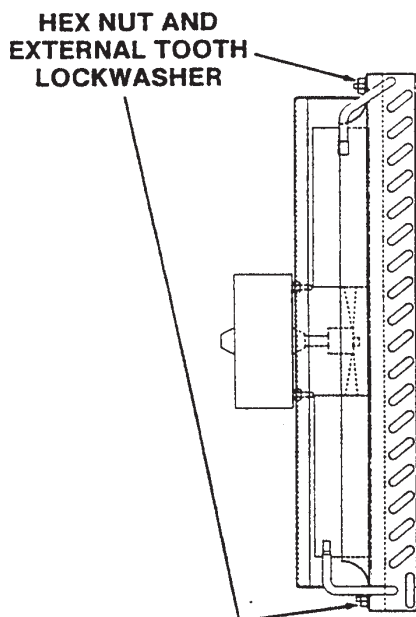

Figure 64. Fan Bracket Removal
5. Remove the four hex head nuts and washers securing the fan motor bracket to the shroud (Figure 64).